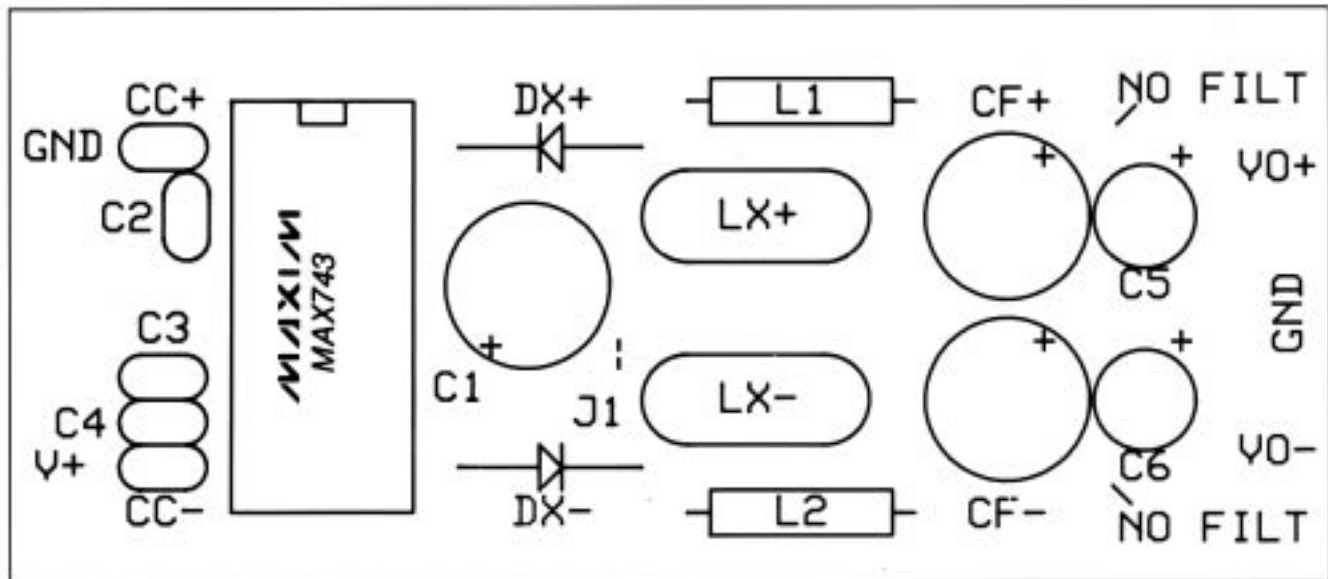

Figure 7. Component Placement Diagram for PC Layout of Figure 6
**1. Build Circuit.** Assemble the PC board according to the component placement diagram of Figure 7 and the schematic of Figure 4. 3 resistors will be left over (and used for testing). The extra holes near LX and CF are options for nonstandard component sizes. Do not install jumper, J1, or C4.